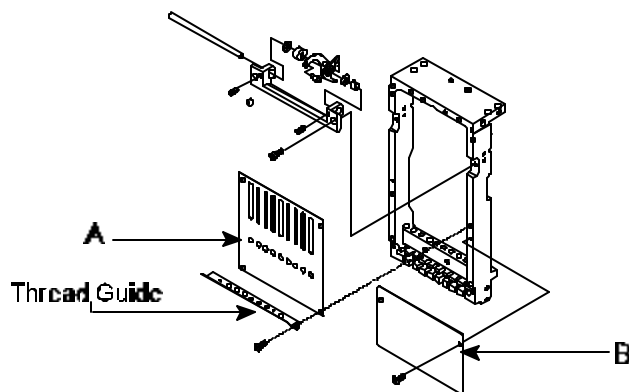

Figure 1
2. **Using** a Phillips Screwdriver **remove** 4 Phillip Screws from A Plate and Thread Guide. See Figure 1.